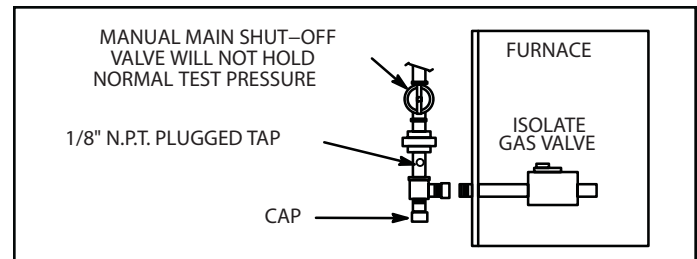

Figure 46.
5. A 1/8" N.P.T. plugged tap or pressure post is located on the gas valve to facilitate test gauge connection. See Figure 46.
When testing pressure of gas lines, gas valve must be disconnected and isolated (see Figure 46). Gas Valves can be damaged if subjected to pressures greater than 1/2 psig (3.48 kPa).